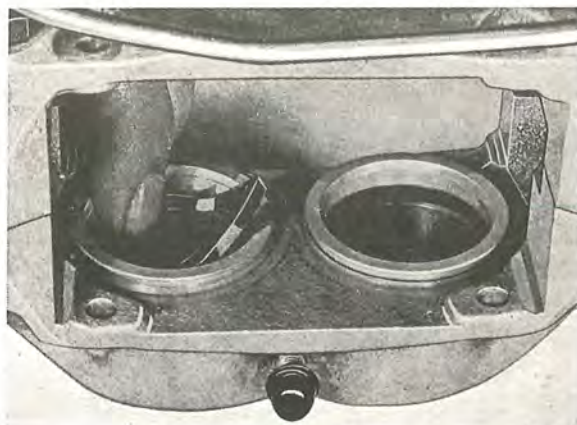

Fig. 5-23. Fitting the sealing ring
2. Fit new sealing rings in the cylinders, see Fig. 5-23.
2. Fit the new sealing rings in the cylinder, see Fig. 5-23.